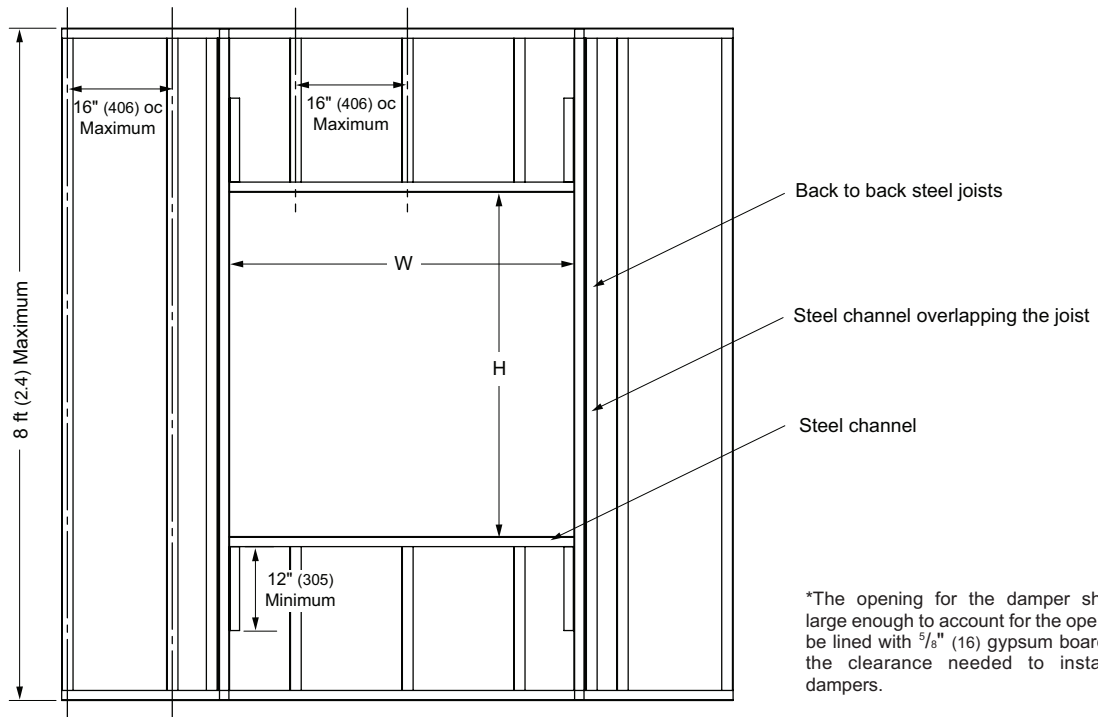

Figure 3
A. On the sides parallel to the steel joists, the damper shall be framed by 2 steel joists installed back to back with a steel channel overlapping the joist facing the damper sleeve. See Fig. 3.
C. The opening shall be lined with $\frac{5}{8}$ " (16) USG Type C gypsum board that is screwed to the steel joist and steel channel with Type S steel screws minimum $1\frac{7}{8}$ " (48) long spaced at 12" (305) maximum on center.